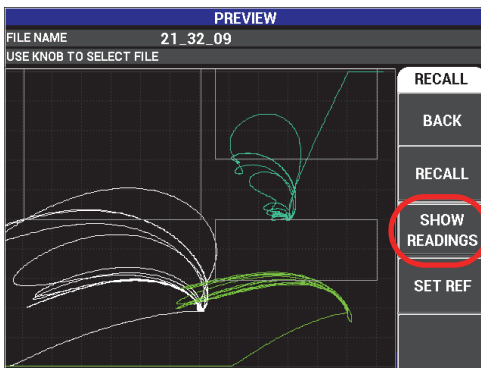
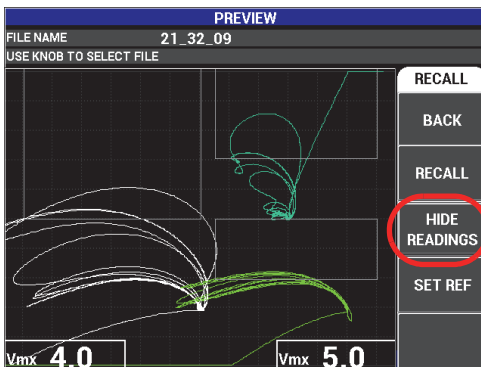

Figure 4-13 The SHOW READINGS function
Figure 4-14 The HIDE READINGS function
- Show or hide readings by pressing the C key (see Figure 4-13 on page 99 and Figure 4-14 on page 99).